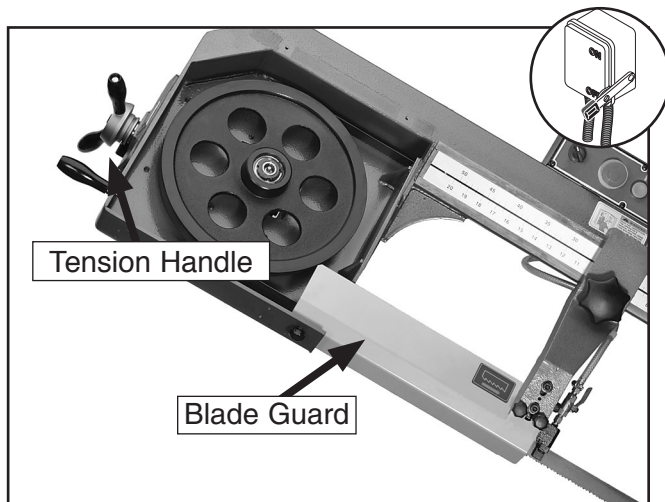

Figure 41. Tension handle and blade.
3. Slide the blade guard all the way down as shown in **Figure 41**.
5. Loosen the blade tension handle in **Figure 41** and slip the blade off of the wheels.